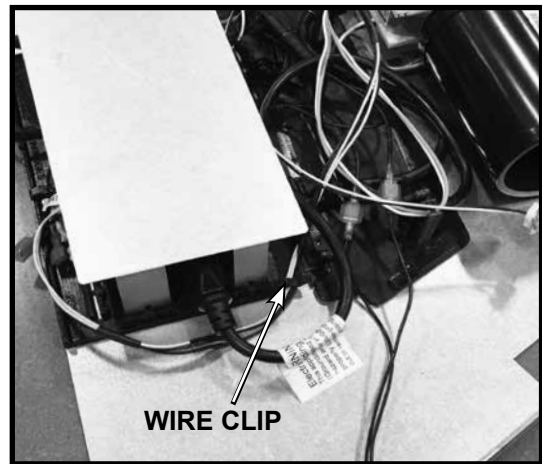
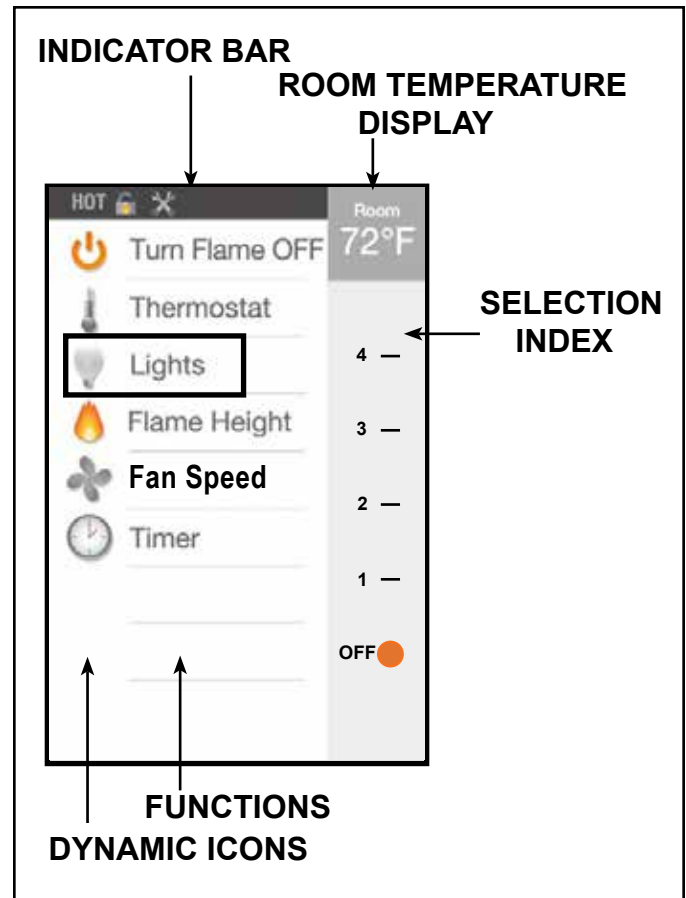

Figure 11
Figure 14. RC400 Display Screen
8. Route the light wires through the wire clip and around the end of the component heat shield as shown in Figure 11 and plug into the Auxiliary Control Module. See wiring diagram for reference (Figure 14).
The lights are operated using the Lights function on the remote control. See Figure 14.